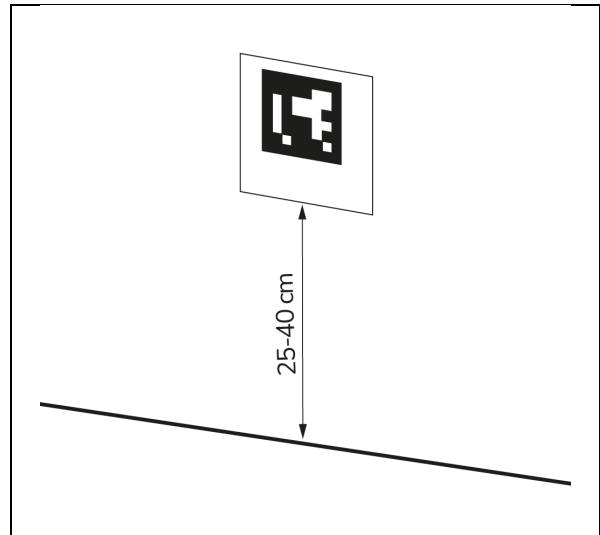

Figure 22
1. Place the QR code block on the wall between 25-40 cm above the floor (Figure 22, pos. 1).